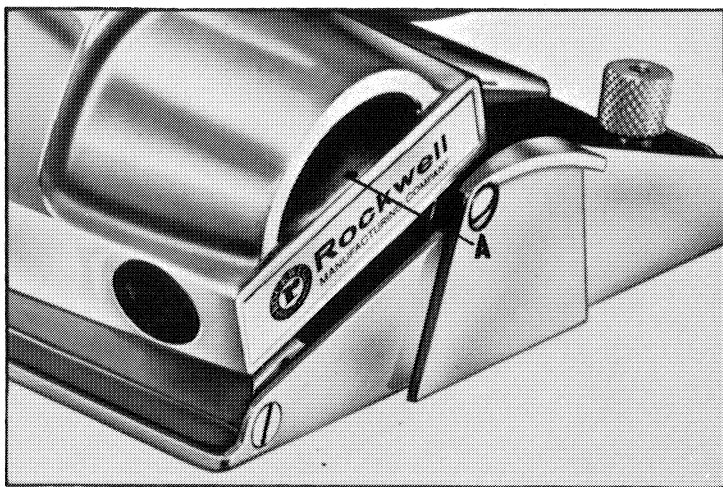

Fig. 9
The armature commutator end bearing is of the oil-impregnated bronze type. This bearing should be lubricated after each 25 hours of operation. Add 4 drops of a good grade bearing oil or best grade, non-detergent, SAE20 motor oil, to the oil hole (A) Fig. 9, located directly above the decorative name plate in front of the upper ventilating slot on the left end of the motor housing. Be sure to clean out oil hole before adding oil. **WARNING:** Do not add more than 4 drops of oil each time you lubricate this bearing. If an excess amount is added, some might work onto the armature commutator to cause motor failure.